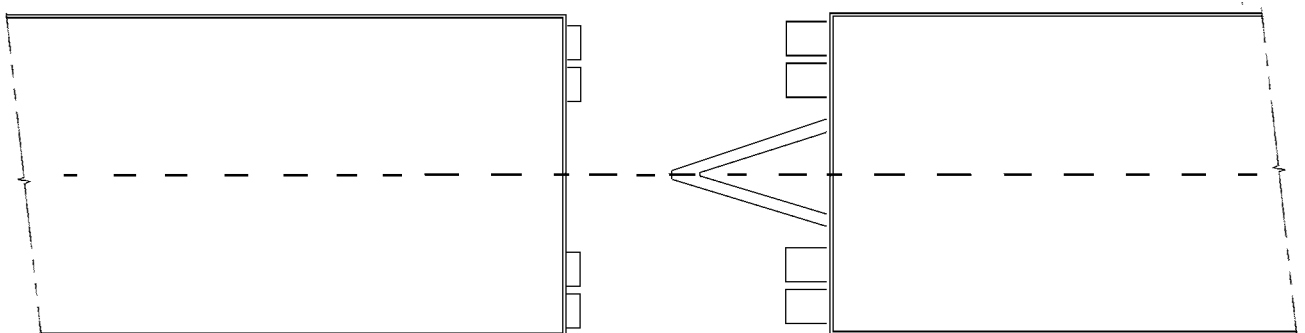

Figure 3-8 Align Truck and Lead Trailer with Pup
1. Place truck and lead trailer directly in front of and aligned with pup trailer. See figure 3-8.